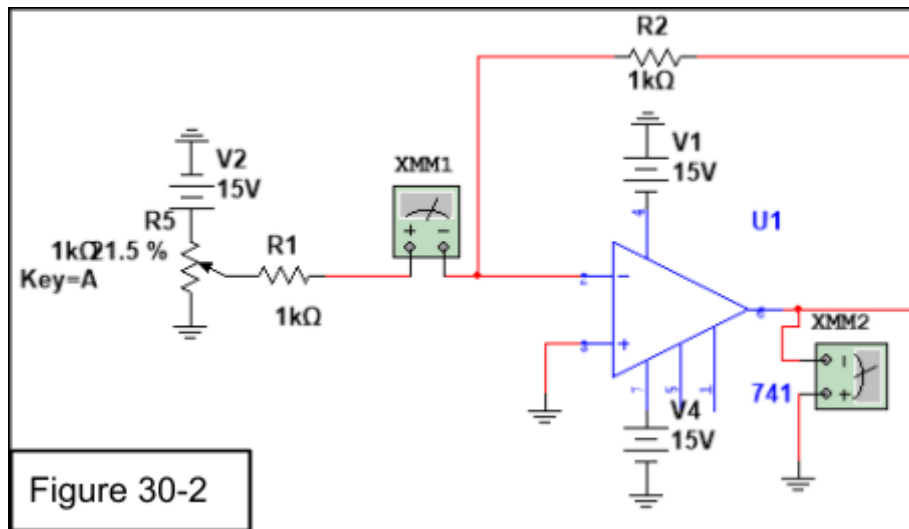

Figure 30-2
5. We constructed the circuit shown in figure 30-2
4. *In Figure 30-2, what is the ideal value of output voltage when the input current is 5mA?*
5. *After removing the potentiometer, 1kOhm resistor, and ammeter from the input of Figure 30-2, the converter acts like an electronic ammeter. Why is this true?*
6. *What change can we make in Figure 30-2 to get an output voltage of 2V when the input current is 1mA?*